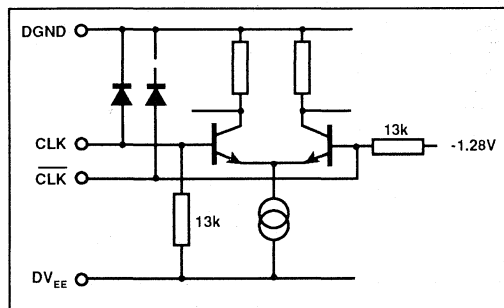

Fig.7 Clock inputs
**Clock Inputs CLK and CLK (Figs. 7 and 8)**